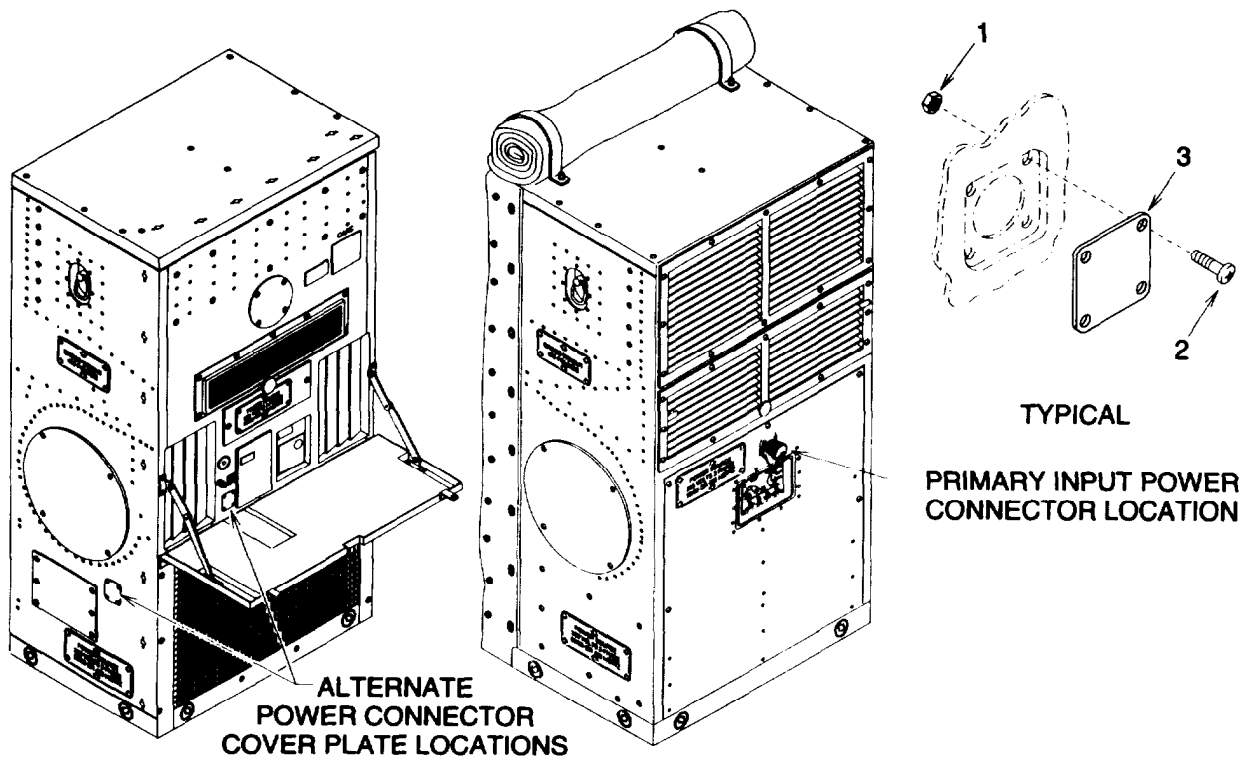
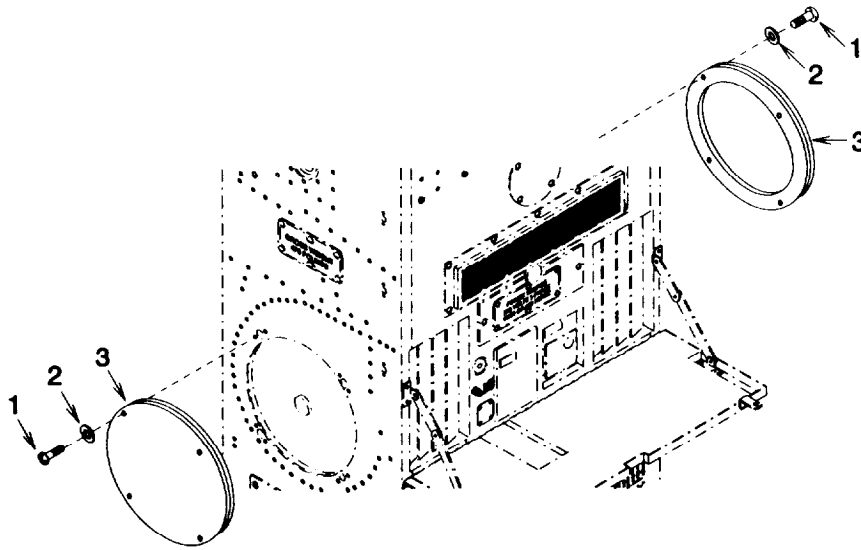

Figure 3-13. Connector Cover Plates
Figure 3-14. *Condenser Fan Covers*
Remove four self locking nuts (1) Figure 3-13, screws (2), and cover (3). Discard self locking nuts.
- (5) Condenser Fan Covers. Remove four screws (1) Figure 3-14, flat washers (2), and cover (3). Repeat for second cover.
- (a) Install cover (3) Figure 3-13, four screws (2), and new self locking nuts (1).
- (b) Install lower front panel per step b., (7).
- (5) Condenser Fan Covers. Install cover (3) Figure 3-14, four screws (1), and flat washers (2). Repeat for second cover.
- (6) Top Panel.